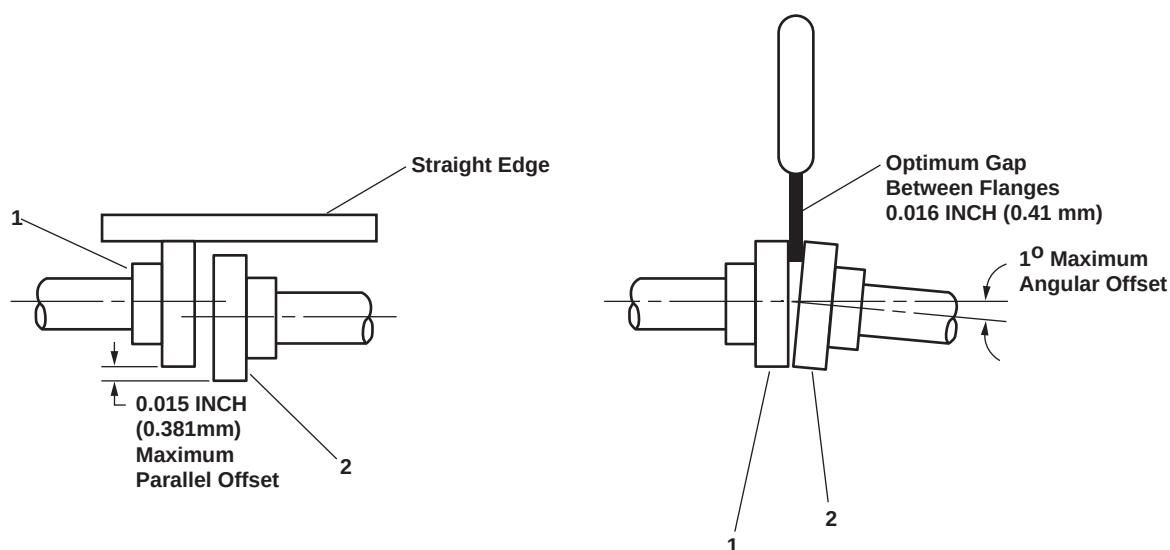

Figure 4. Alignment of Pump Coupling Flange and Motor Coupling Flange
4. Align the pump coupling flange (figure 4, item 1) and the motor coupling flange (figure 4, item 2) together leaving approximately 0.016-inch (0.41 mm) space between the ends of both flanges. Refer to figure 4.
5. Check the alignment between the pump coupling flange (figure 4, item 1) and the motor coupling flange (figure 4, item 2).
6. The maximum angular offset shall be 1 degree and maximum parallel offset shall be 0.015 inch (0.381 mm). Refer to figure 4.